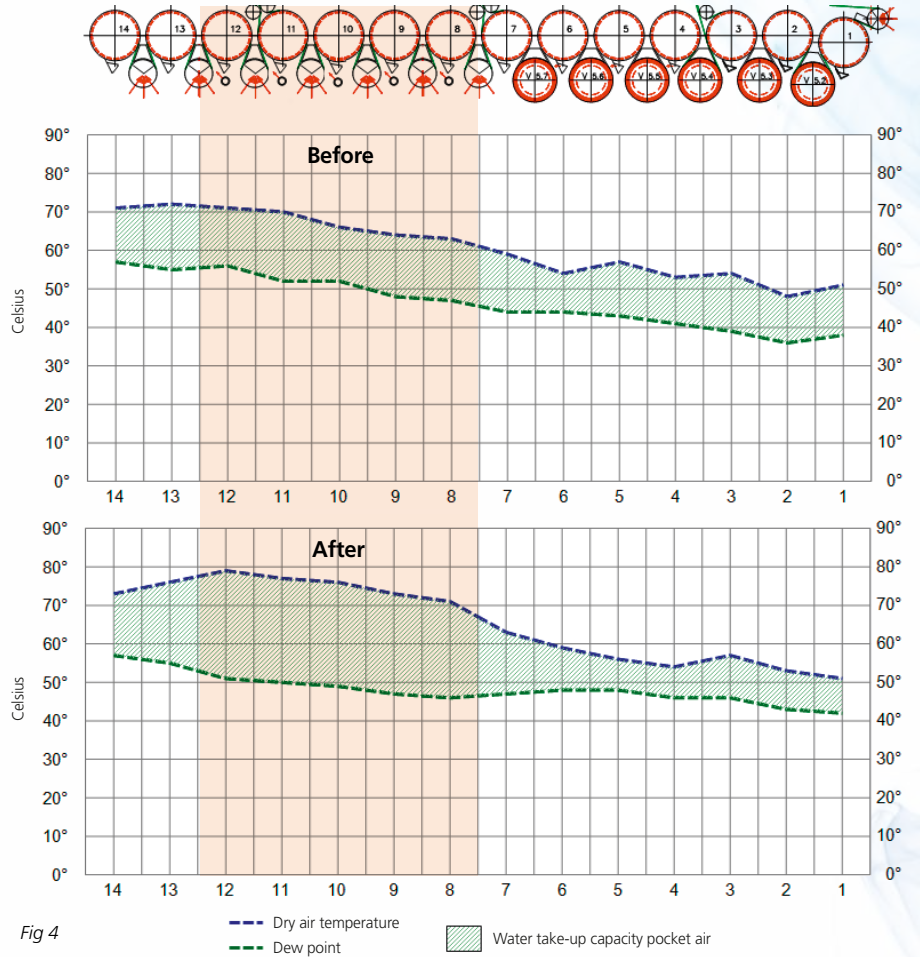

Fig 4
- The fresh air saved benefits pocket ventilation (Fig 4)
(Fig 4)